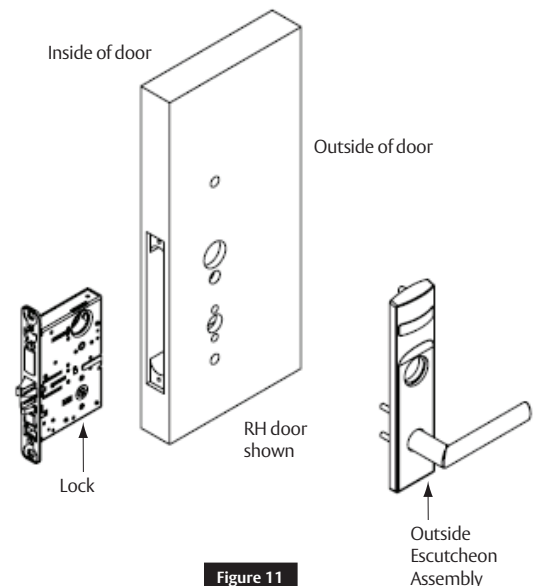

Figure 11
3. Slide outside lever and escutcheon assembly through door; lock body and hold. (Figure 11)